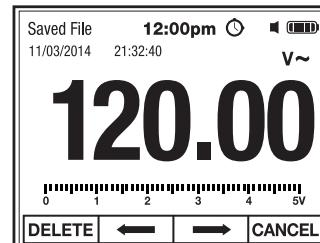

Fig. 19
4. Use the F2 ⇐ and F3 ⇌ soft keys (Fig. 19) to select other Saved Files as shown in Step 2.
5. Press the F1 DELETE soft key to delete Saved File (Fig. 19).
6. Press the F4 CANCEL soft key to return to Measurements without deleting (Fig. 19).